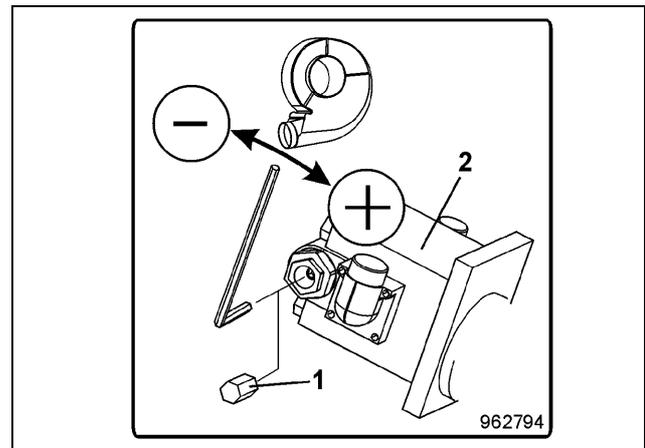

Fig. 91
Please find the required blower fan speed in the table (Table 5). Set the blower fan speed on the pressure relief valve (Fig. 91/2) or on the current regulating valve on the tractor (see below).
- remove dust cap (Fig. 91/1)